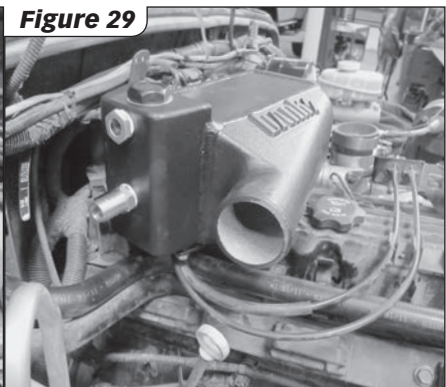

Figure 29
12. Install Techni-Cooler onto brackets using 5/16"-18 bolts (P/N 91271) and washers (P/N 91202) using threadlocker. **See Figure 29**
See Figure 29